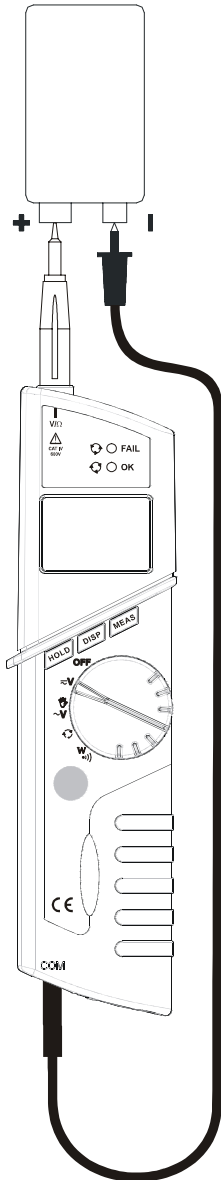

Fig. 3: DC voltage measurement
2. Insert the black test lead in the **COM** jack and the red probe in the V+/ Ω jack (Fig. 3).
5. Should you get a symbol "-" it means that the detected voltage has an opposite direction compared to the connection shown in Fig. 3.